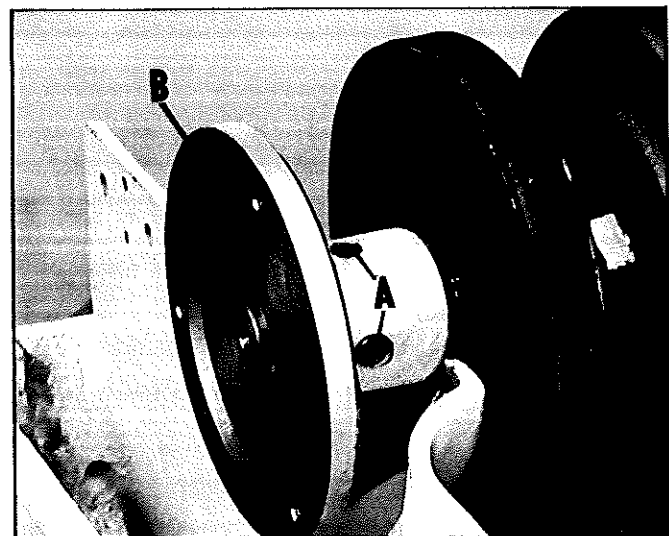

Fig. 28
5. Loosen set screws (A) and flange (B) Fig. 28.